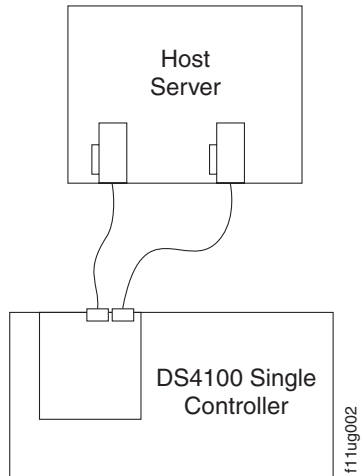

Figure 30. Example of a single server configuration with two adapters (single-controller storage server)
- Single server configuration with two adapters, as shown in Figure 30 on page 41